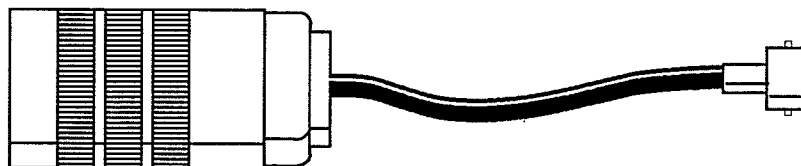

Figure 1-2 – Voltage Adapter
- **Voltage Adapter** (Tektronix part number 015-0598-00) – used by service personnel during instrument calibration. When using the Voltage Adapter, the input impedance of each channel is 50Ω . (See Fig. 1-2.)